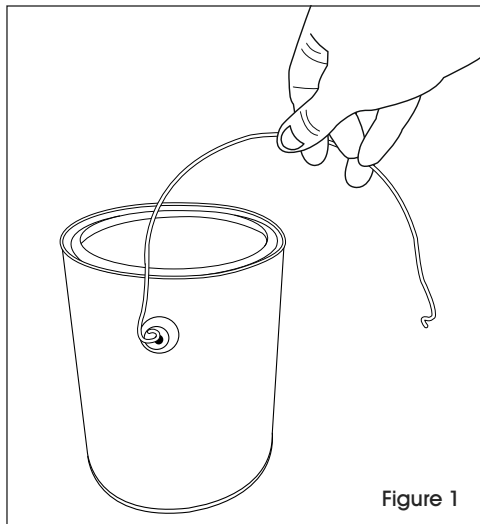

Figure 1
1. Place prong of handle into hole. (See Figure 1)
(Voir Figure 1)